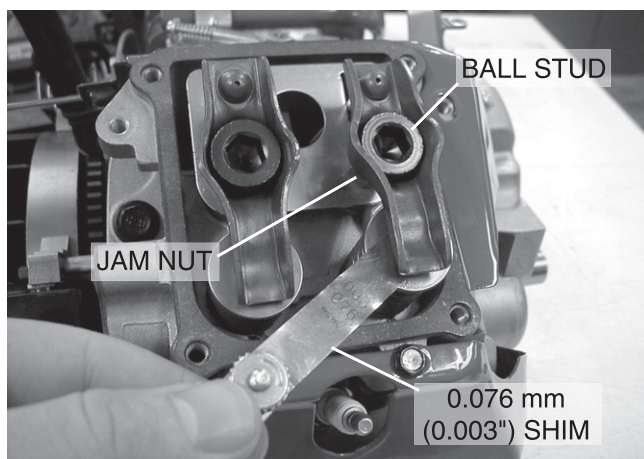

Figure 13-15. Adjust Valve Clearance
- a. Adjust rocker arms and check clearance, Figure 13-15.